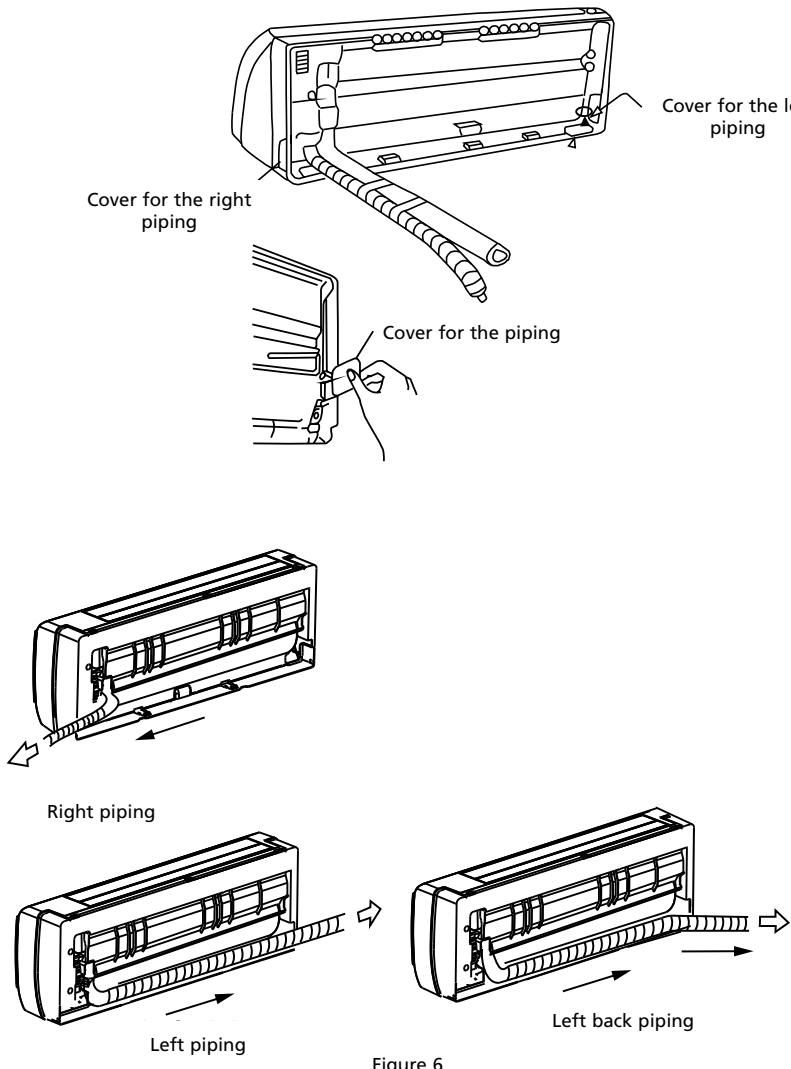

Figure 6
- The piping can be connected exiting from the left rear or right rear of the interior unit. Remove the left or right breakout plate. See figure 6.
- The piping can be connected exiting from the left rear or right rear. See figure 6.